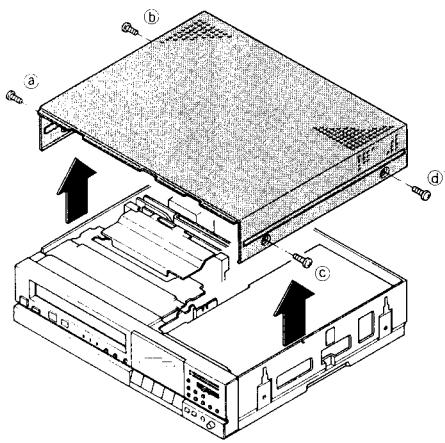

Fig. 2-1
- 1) As shown in Fig. 2-1, remove the four screws (②, ③, ④ and ⑤), two on each side retaining the top cover.